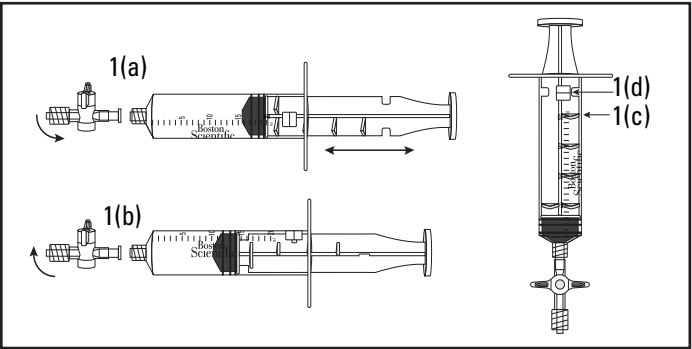

Figure 1.
1. Examine the stopcock (Figure 1(a)). The stopcock has two luer connections to attach to the needle and syringe. Air can be exchanged with the stopcock in the open position. The stopcock is open when it is aligned parallel to the syringe; it is closed when perpendicular to the syringe (as shown).
- Examine the syringe (Figure 1). The syringe barrel has one stop pin (Figure 1 (d)) and the syringe plunger has four locking fins (Figure 1(c)). The syringe plunger can be maneuvered within the syringe barrel to lock and unlock the syringe. To lock the syringe, pull back on the plunger until it aligns with the desired suction volume (Figure 1(a)). Turn the plunger clockwise so that the locking pin engages with the locking fins on the plunger (Figure 1(b)). Turn the plunger counterclockwise to release.
1. Prepare device, supplied syringe, and stopcock as previously noted. Rotate the stopcock to the closed position, perpendicular to the syringe. Pull the syringe plunger to the desired volume and use the locking fins and stop pin on the syringe to secure the plunger in place. (Figures 1(c) and 1(d)).
Note: The locking fins and stop pin (Figures 1(c) and 1(d)) will have to be disengaged in order to pass air from the syringe.